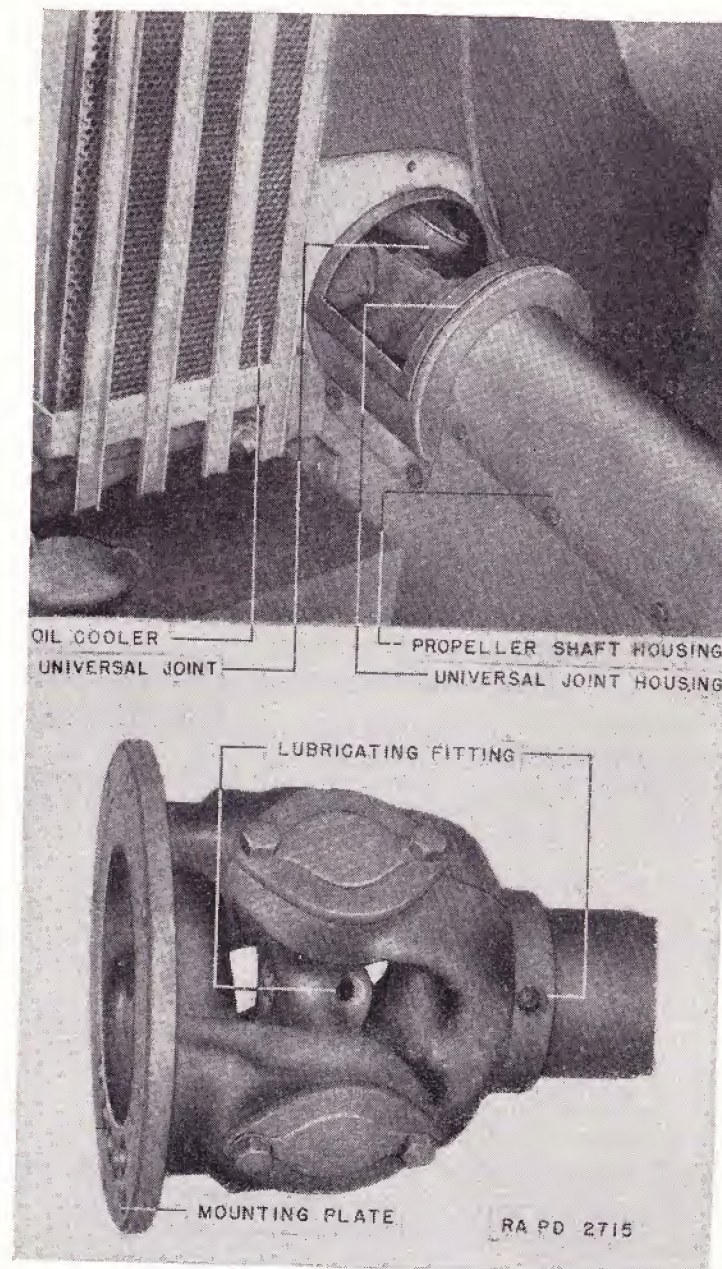

FIGURE 42.—Propeller shaft and universal joint.
82. General.—The propeller shaft (fig. 42) transmits power from the clutch to the transmission and the rest of the power train. It is equipped with universal joints at either end to permit operating at an angle with the transmission and clutch. It is inclosed in a housing or "tunnel" in the center of the floor of the crew compartment.